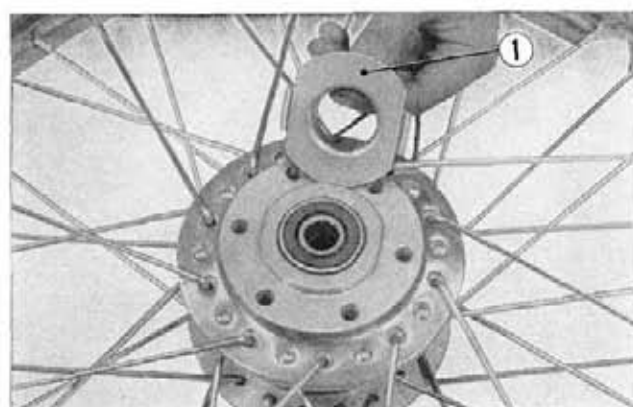

Fig. 13-10 ① Gear box retainer
4. Align the gear box retainer to the cutout in the wheel hub and install the gear box retainer cover from above, and install the six disc mounting bolts. Mount the disc of the opposite side and fix in place with the nuts. (Fig. 13-10)